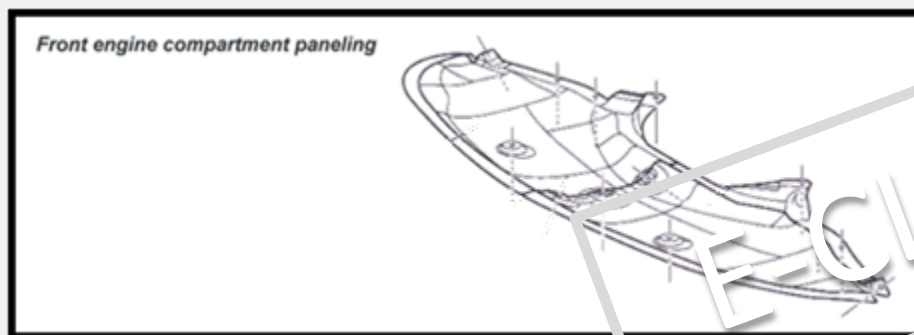

Figure 2.0
2.0 Remove engine compartment paneling. (Figure 2.0)